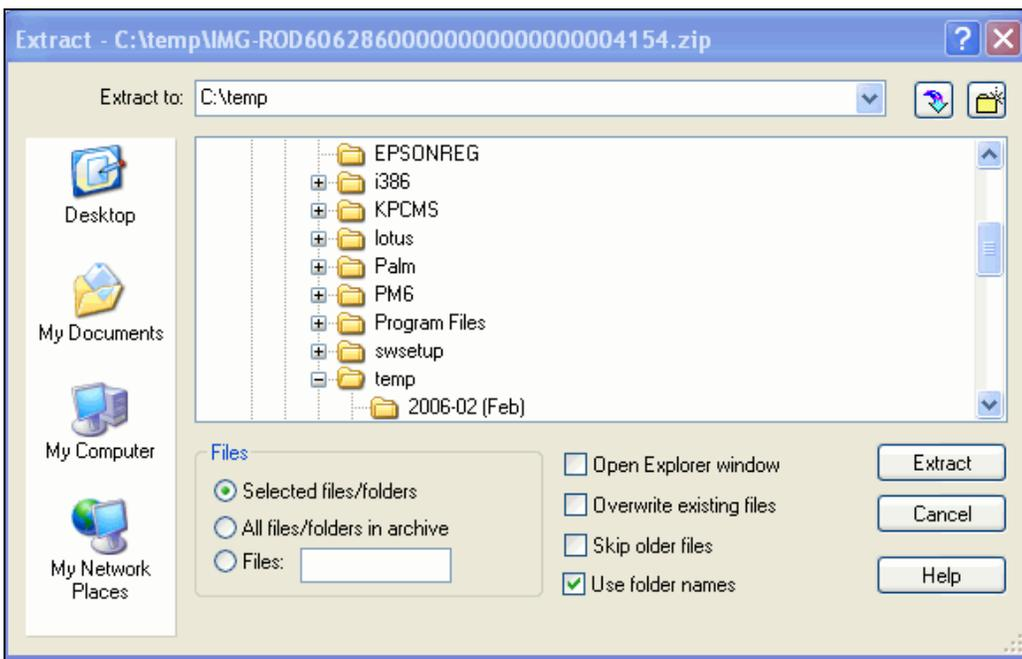

Figure 5.32.7
- Click each file name displayed within the window to select, then click the **'Extract'** icon at the top of the window. An 'Extract to' window opens (Figure 5.32.7).